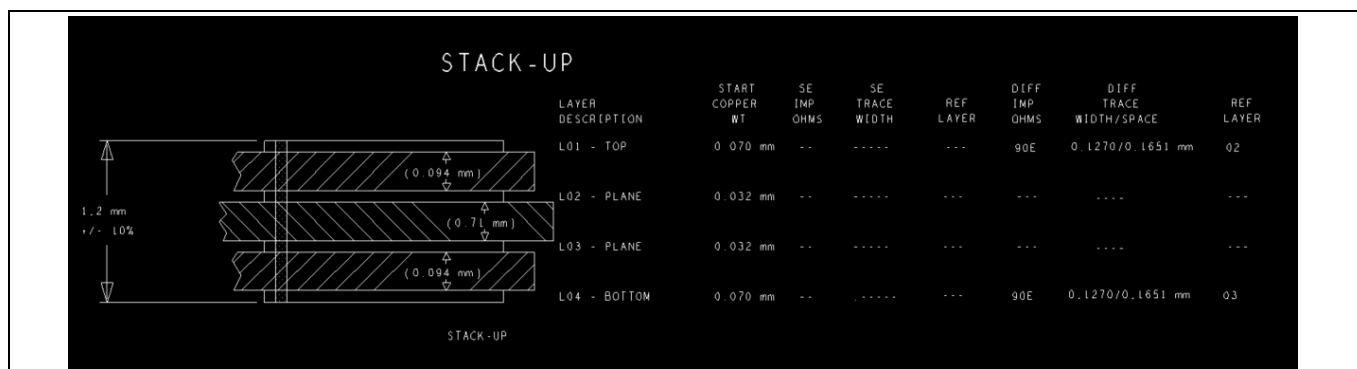

Figure 15 4-layer PCB stack up
Figure 15 shows the recommended stack up for a 1.2-mm thick PCB. The values of width (W) and spacing (S) are based on CY7110 EZ-PD PMG1-S0 Prototyping Kit.